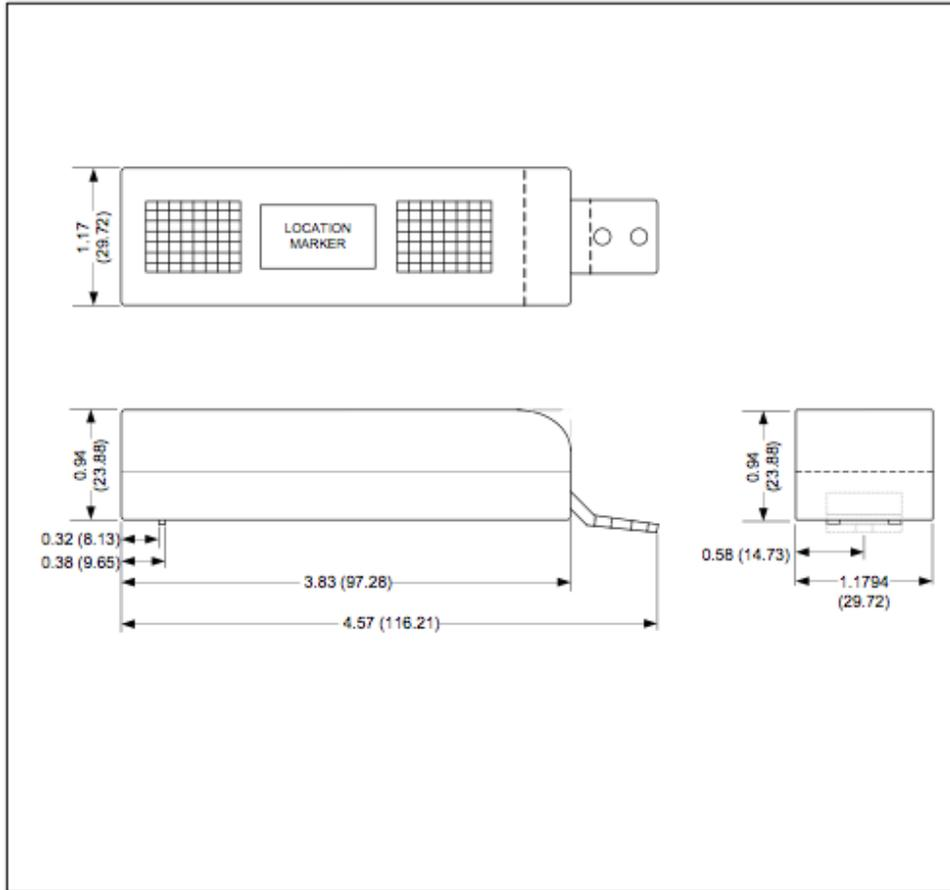
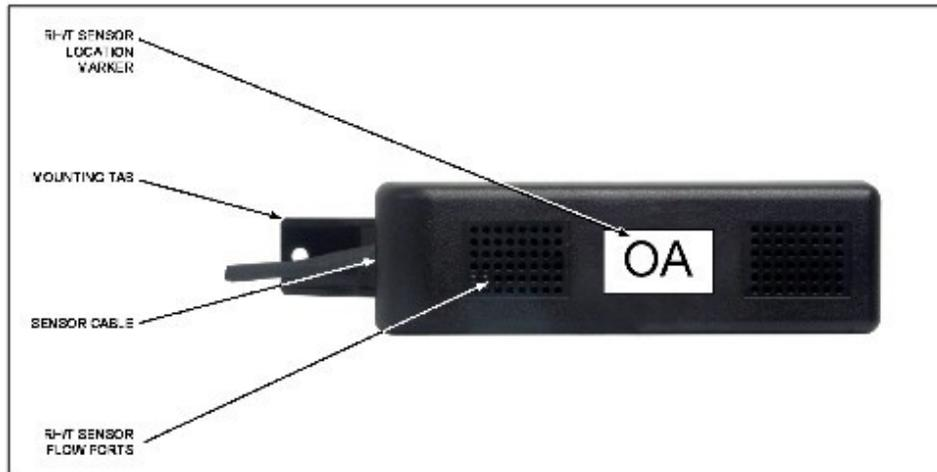

Figure 3. RH/Temperature Sensor Mechanical Detail
Figure 6. RH/T Sensor Detail View
Figure 6 is a detail view of the RH/T Sensor assembly. Refer also to Figure 3 for dimensional details.
The DRI-1000-A is supplied with 4 RH/T sensors (Figure 3). The location of the individual RH/T sensors is critical for proper operation of the system.
3. Refer to Figure 3, and using suitable mounting hardware, mount the RH/T sensor marked **OA** in the **OA** quadrant through the integral sensor mounting tab. It is recommended that the end of the cable be marked “**OA**” with a suitable permanent marker.
4. Refer to Figure 3, and using suitable mounting hardware, mount the RH/T sensor marked **RA** in the **RA** quadrant through the integral sensor mounting tab. It is recommended that the end of the cable be marked “**RA**” with a suitable permanent marker.
5. Refer to Figure 3, and using suitable mounting hardware, mount the RH/T sensor marked **EX** in the **EX** quadrant through the integral sensor mounting tab. It is recommended that the end of the cable be marked “**EX**” with a suitable permanent marker.
6. Refer to Figure 3, and using suitable mounting hardware, mount the RH/T sensor marked **SA** in the **SA** quadrant through the integral sensor mounting tab. It is recommended that the end of the cable be marked “**SA**” with a suitable permanent marker.